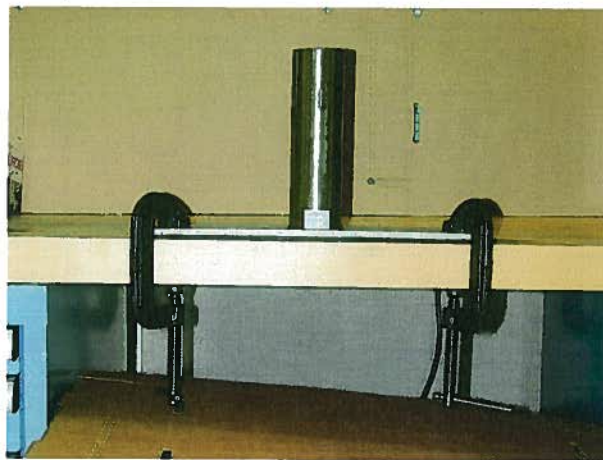

Figure 7: SFC in the base plate.
- f. Place the SFC container body in the SFC base plate (use Model I or III adaptors if needed). See Figure 7.